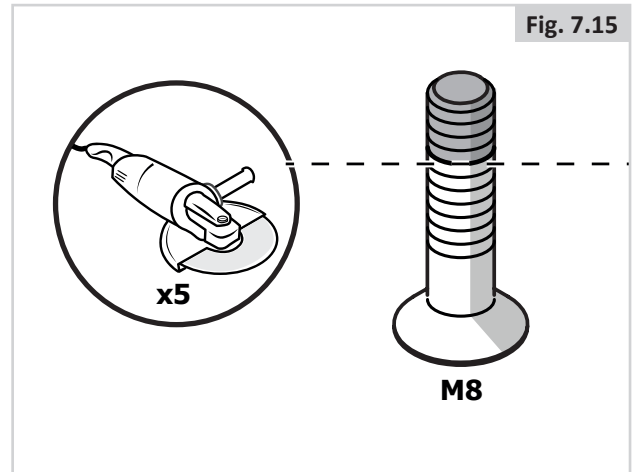

Fig. 7.15
6. Cut the screw where the mark is (Fig. 7.15).